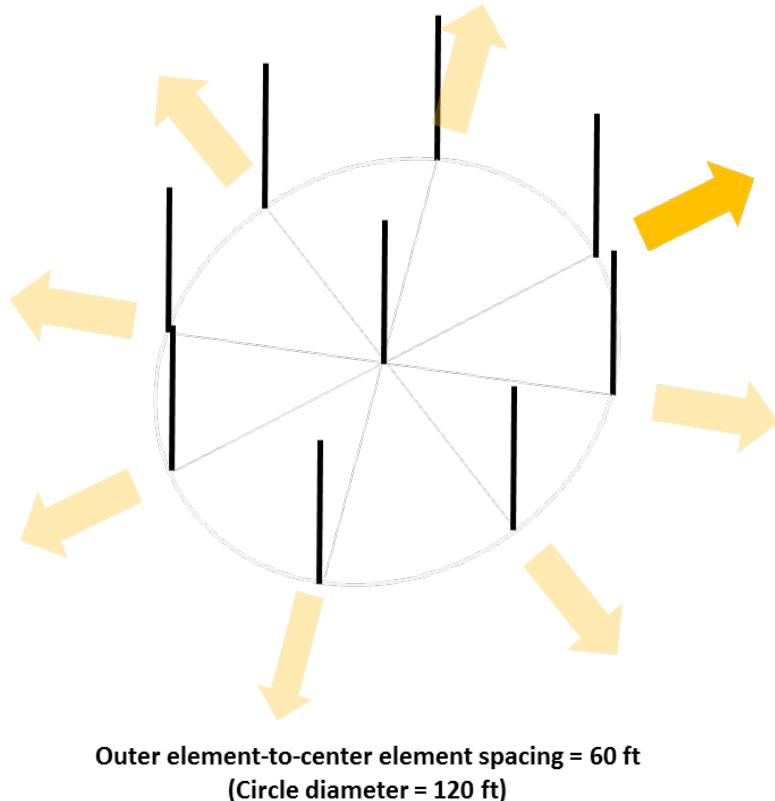

Figure 3. 9-element circular configuration
3. **9-element circle:** Four 3-element inline arrays, with a common center element, laid out in a circular configuration as shown in Figure 3. Switching circuitry selects which inline array is activated. The array provides eight directions of coverage, every 45 degrees in azimuth. The diameter of the circle is 120 feet.